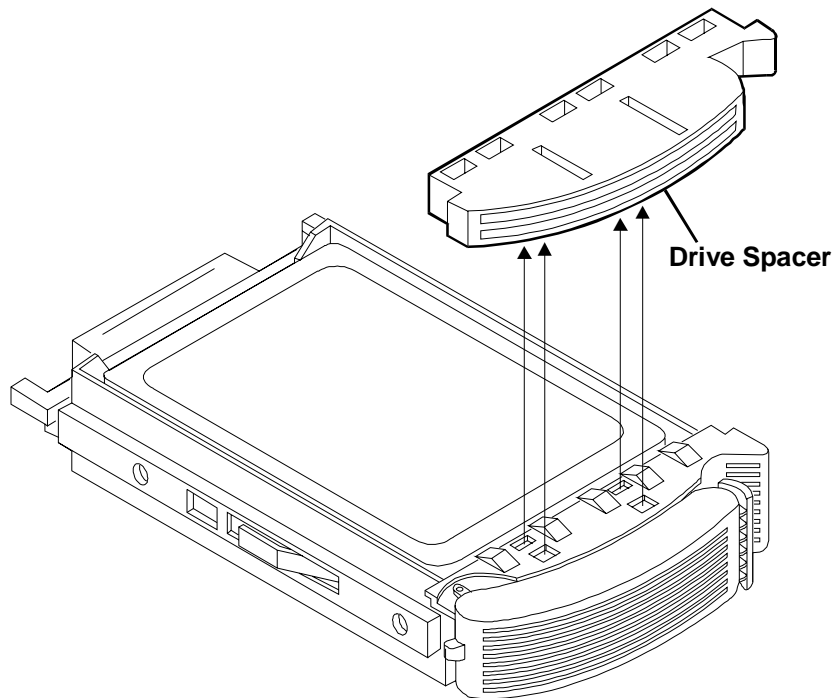

Figure 6-3. Removing the Drive Spacer
- Pull the drive spacer forward slightly to disengage the back two feet and lift (see Figure 6-3).